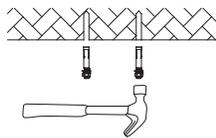

Figure 4
- Step 2. Fix screws into the holes with a hammer. (Figure 4)